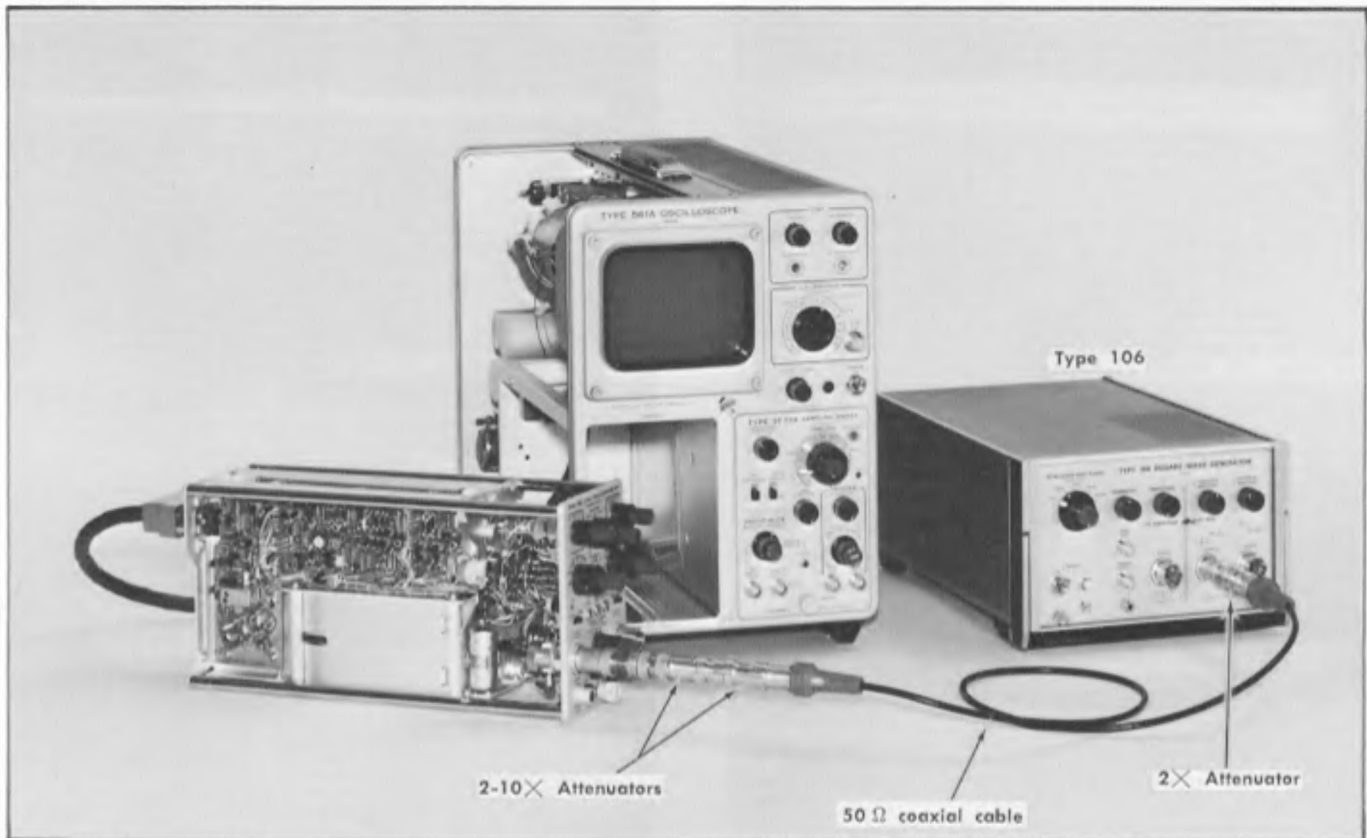

Fig. 8-34. Equipment and connections for Step 28.
a. Make the connections and set the controls as listed under Fig. 8-34. Obtain a display similar to Fig. 8-35A where two traces are obvious. This is really a display of the square wave generator signal amplitude, highly attenuated.